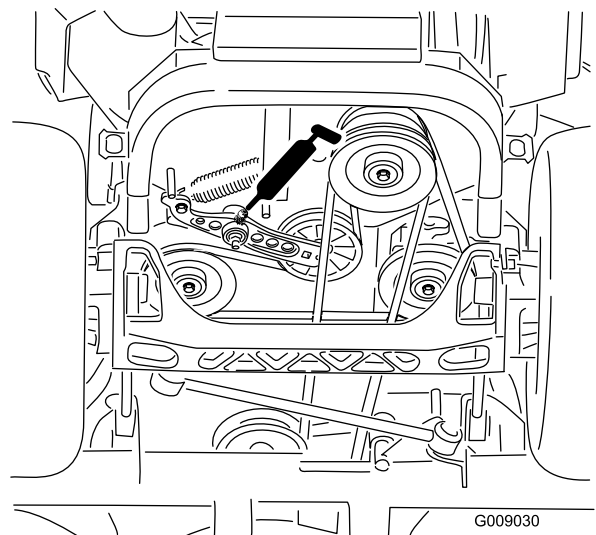

Figure 45
4. Grease the drive-belt-idler arm (Figure 45).